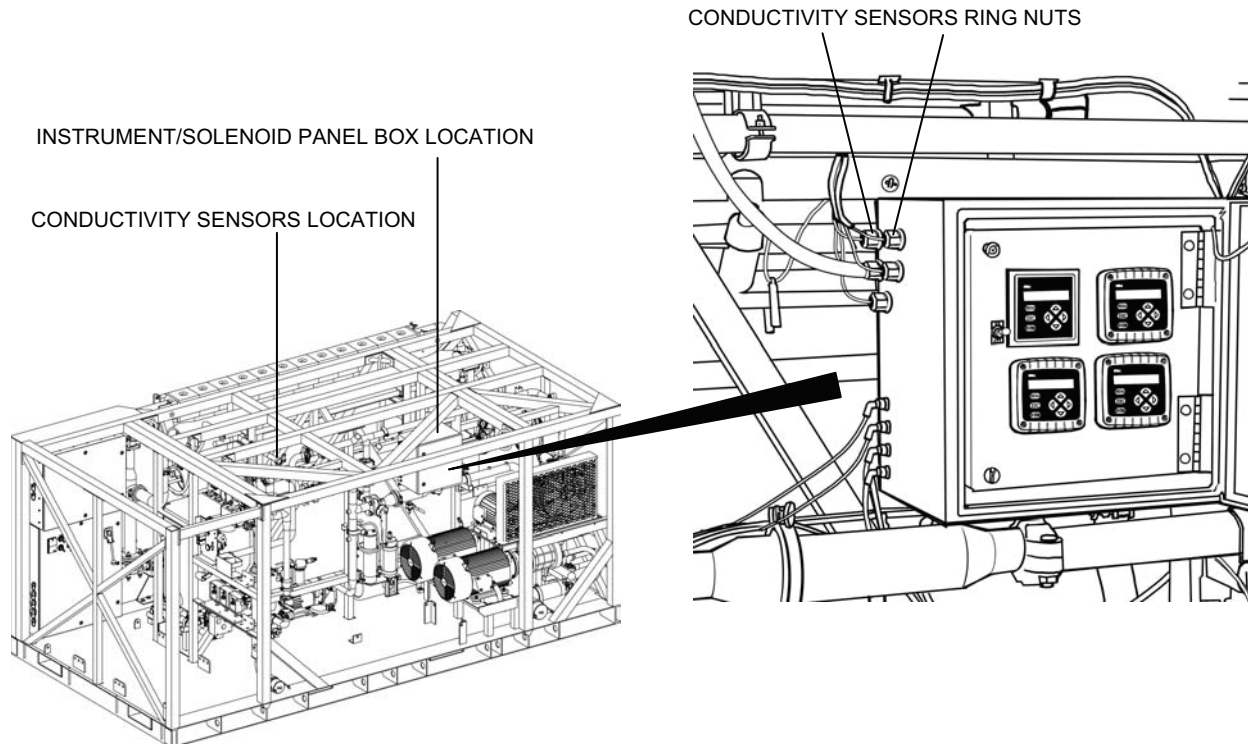

Figure 9. Conductivity Sensors and Instrument/Solenoid Panel Box Location.
- c. Mark the sensor cable routing from the sensor to the transmitter in the Instrument/Solenoid Panel Box (see Figure 9 for the sensor and box locations).